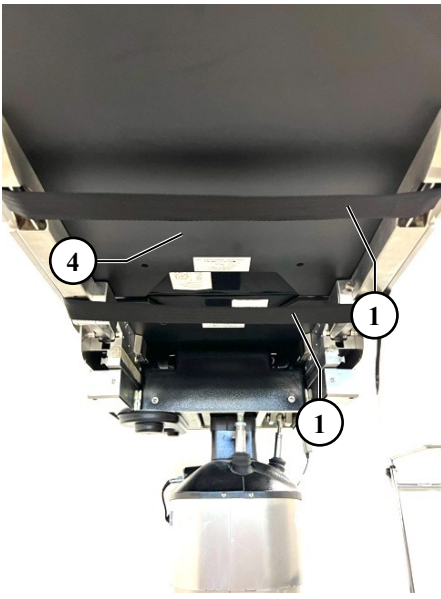

Fig. 5-7: Underside of OR table leg section
- ▶ Bring the belt (1) under the OR table leg section (4) and up around the non-operative side.
- ▶ Ensure the belt is securely routed under the OR table leg section (4) so that it will not slip during the operation due to any components on the underside of the OR table leg section as shown in Figure 5-7.
- ▶ For maximum stability, position the belt behind (medial of) the OR table siderail (2) and proximal of the siderail standoff (3).